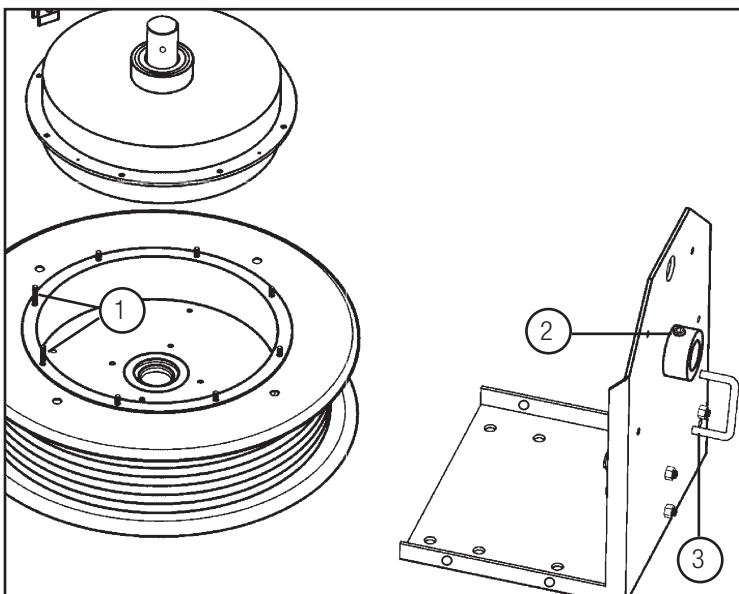

Figure 21-4
9. Loosen the 1/2-13 set screw in the Frame Hub using a 1/4 Hex (Allen) Wrench. See **Figure 21-4**.